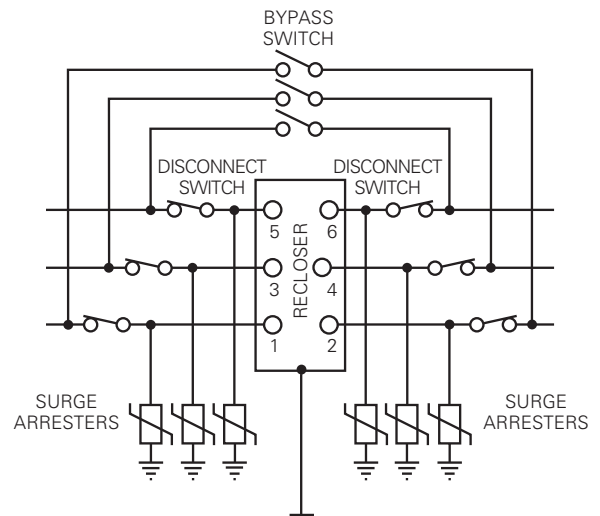

Figure 6. Connection diagram shows complete surge protection and illustrates switches to facilitate maintenance.
7. Make high-voltage line connections (Figure 6).
A. Connect high-voltage lines to recloser bushing terminals (Figure 6). The universal clamp-type terminals for main line connections accept 1/0- through 500-MCM cables.